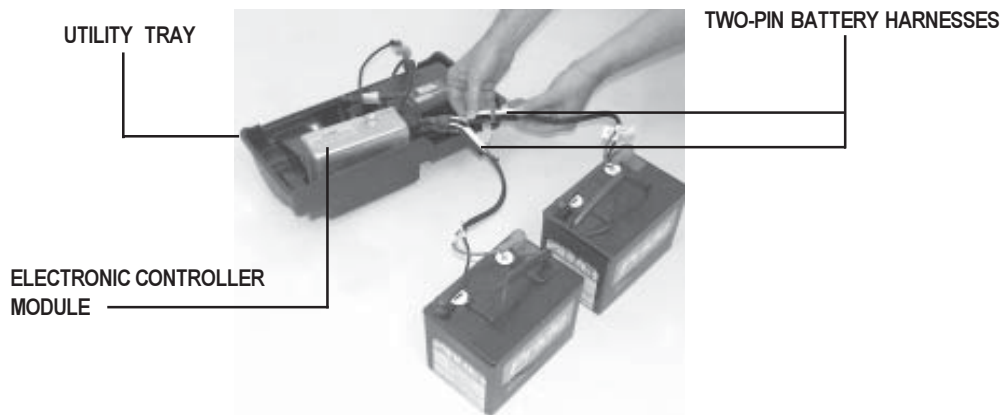

Figure 10. Utility Tray and Batteries
You can charge your Celebrity's batteries with the Scooter completely assembled or with the Scooter disassembled, as described in VIII. "Disassembly and Assembly." We strongly recommend you charge your batteries while your Scooter is fully assembled. However, if you are traveling and you disassemble your Scooter to transport it, you may find it necessary to charge your batteries. In such instances, it is easier to take out the utility tray and batteries to perform the charging. See figure 10.
3. Plug both the two-pin battery harnesses into the adjoining harnesses extending from the electronic controller module on the utility tray. See figure 10.